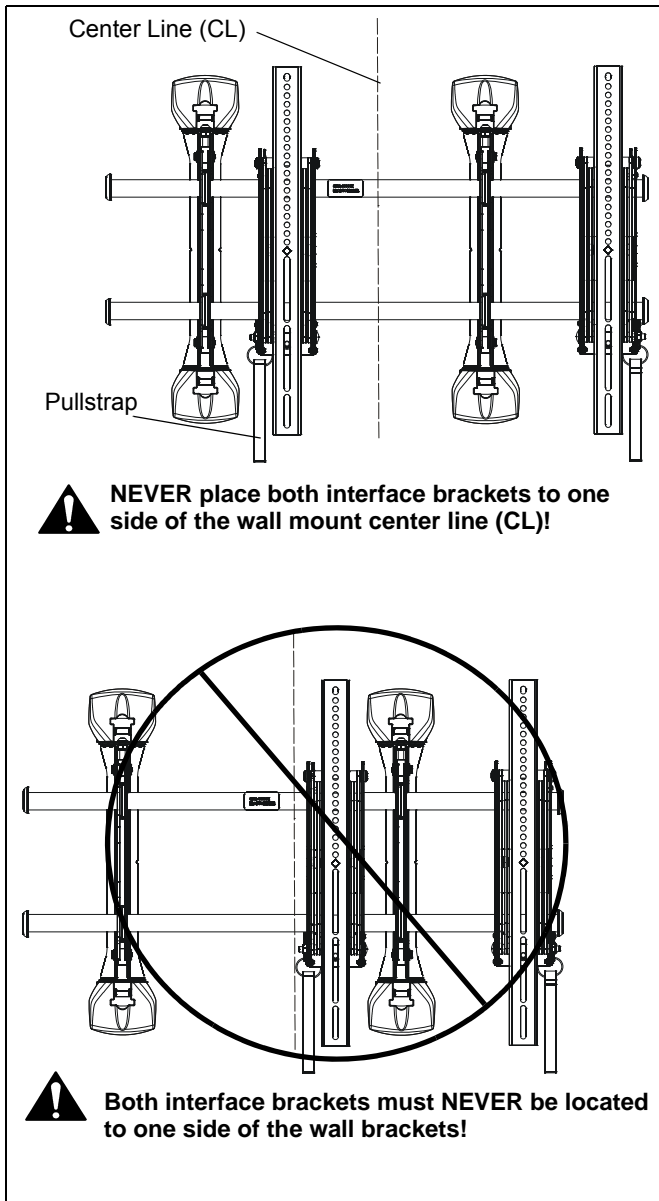

Figure 11
2. Adjust Velcro® pull strap (if necessary) so it does not extend beyond bottom of screen. (See Figure 11)
NOTE: Do NOT allow both interface brackets (U and V) to be located on same side of wall bracket. (See Figure 11)
NOTE: NEVER place both interface brackets (U and V) to one side of the wall mount center line! (See Figure 11)